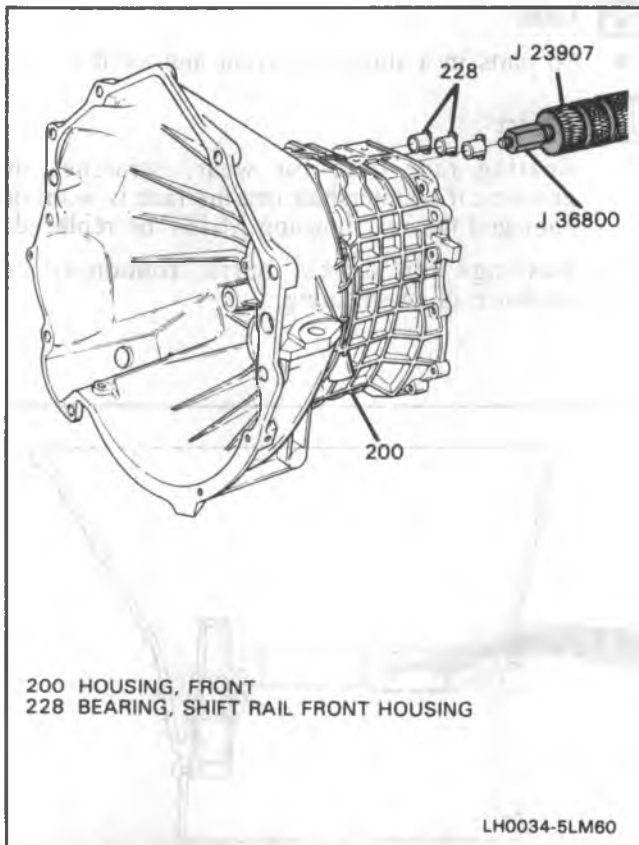

Figure 33 Removing Shift Rail Bearings
1. Ball bearing outer race (216), using brass drift.
2. Three shift rail front housing bearings (228), using J 36800 and J 23907 (Figure 33).